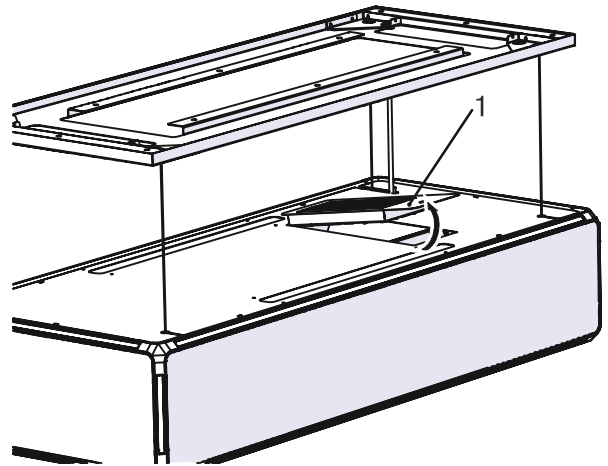

Fig. 36
- 1.** ➤ Pull the carbon filter on the housing towards the direction of the arrow and remove it (Fig. 36).